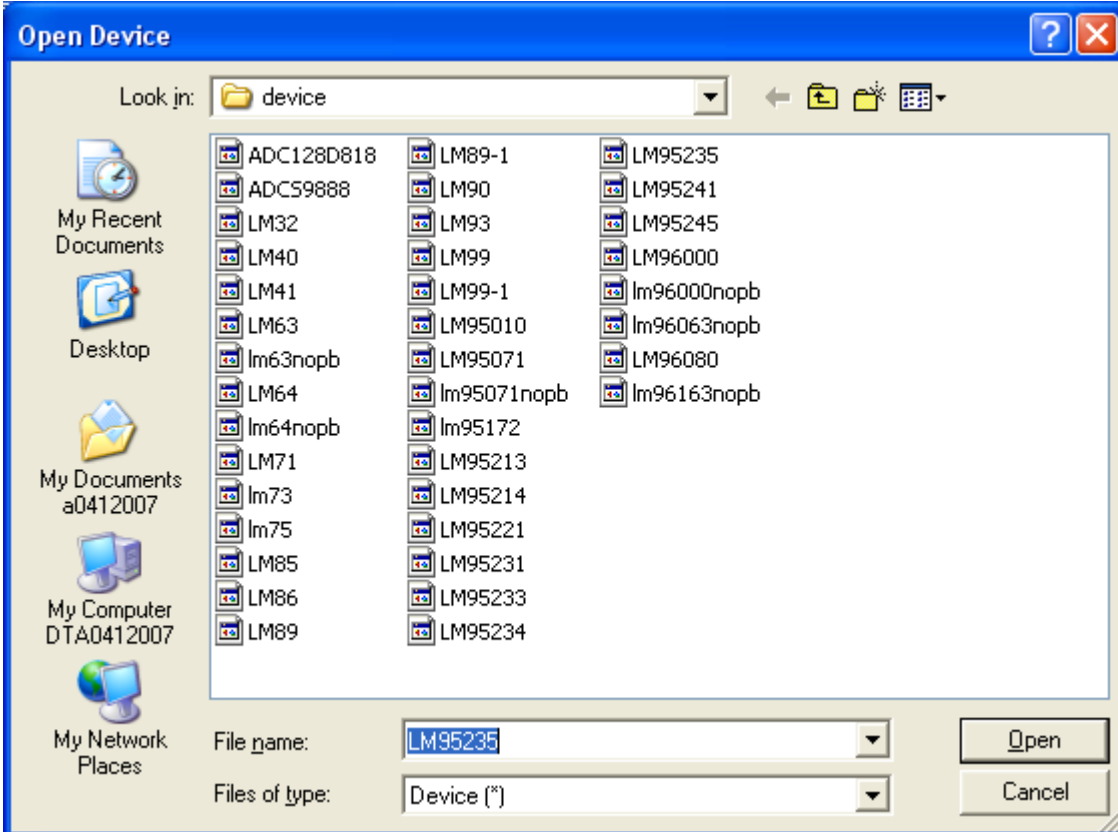

Figure 4
7. Run the SensorEval software by either clicking on the desktop icon or by selecting Start, Programs, National Semiconductor, SensorEval, National SensorEval. The first screen should look like Figure 4 below: